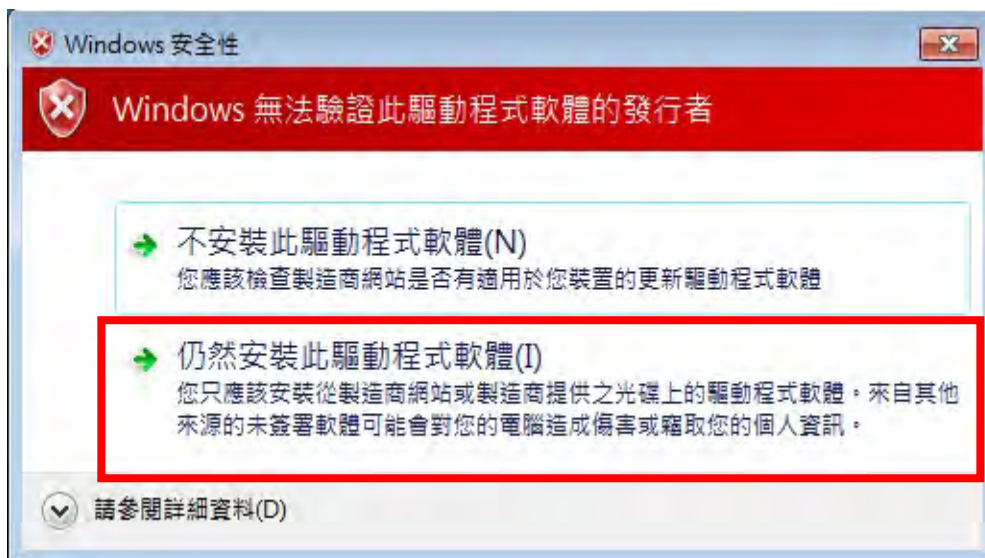

Figure 2-1-13 Security authentication in Windows 7.
- ◆ The Windows Security Authentication will pop up during installation, please select [Continue the Installation of this Driver], as shown in Figure 2-1-13.